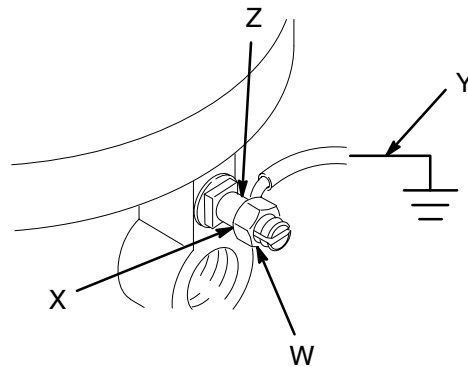

Fig. 2
1. *Pump:* loosen the grounding lug locknut (W) and washer (X). Insert one end of a 12 ga (1.5 mm²) minimum ground wire (Y) into the slot in lug (Z) and tighten the locknut securely. See Fig 2. Connect the other end of the wire to a true earth ground. To order a ground wire and clamp, order Part No. 222011.